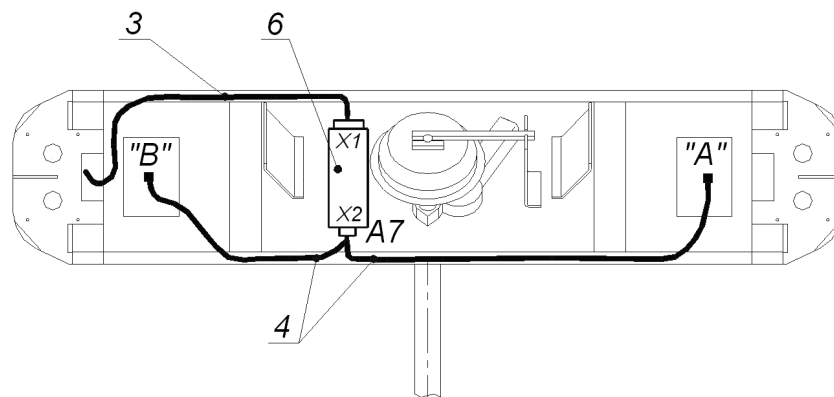

Fig. 11. Cables layout inside the turnstile housing
6. To get an access to the mounting holes of the turnstile housing base (4) remove the turnstile housing cover (1) and both outer panels (2). Thus, you get an access to the mounting holes of the turnstile housing base (4). Fix the turnstile housing after laying the cables in the electric raceway and inside the turnstile housing.
7. The cables layout inside the turnstile housing is shown in Fig. 11.
8. Install the turnstile power supply (11) in its place (installation procedure for the turnstile power supply is given in the power supply certificate).